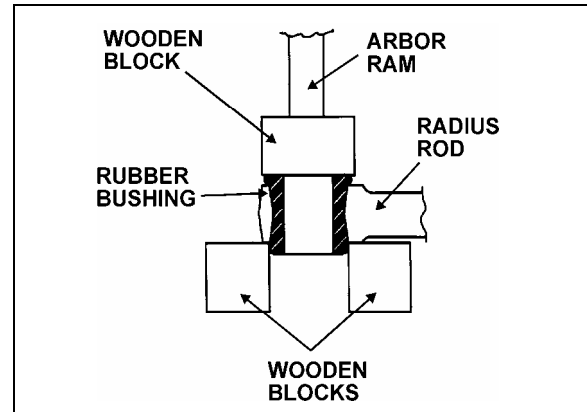

FIGURE 9: RADIUS ROD BUSHING INSTALLATION 16012
2. Safely support the radius rod, and place new bushing on top of the radius rod end (Fig. 9).